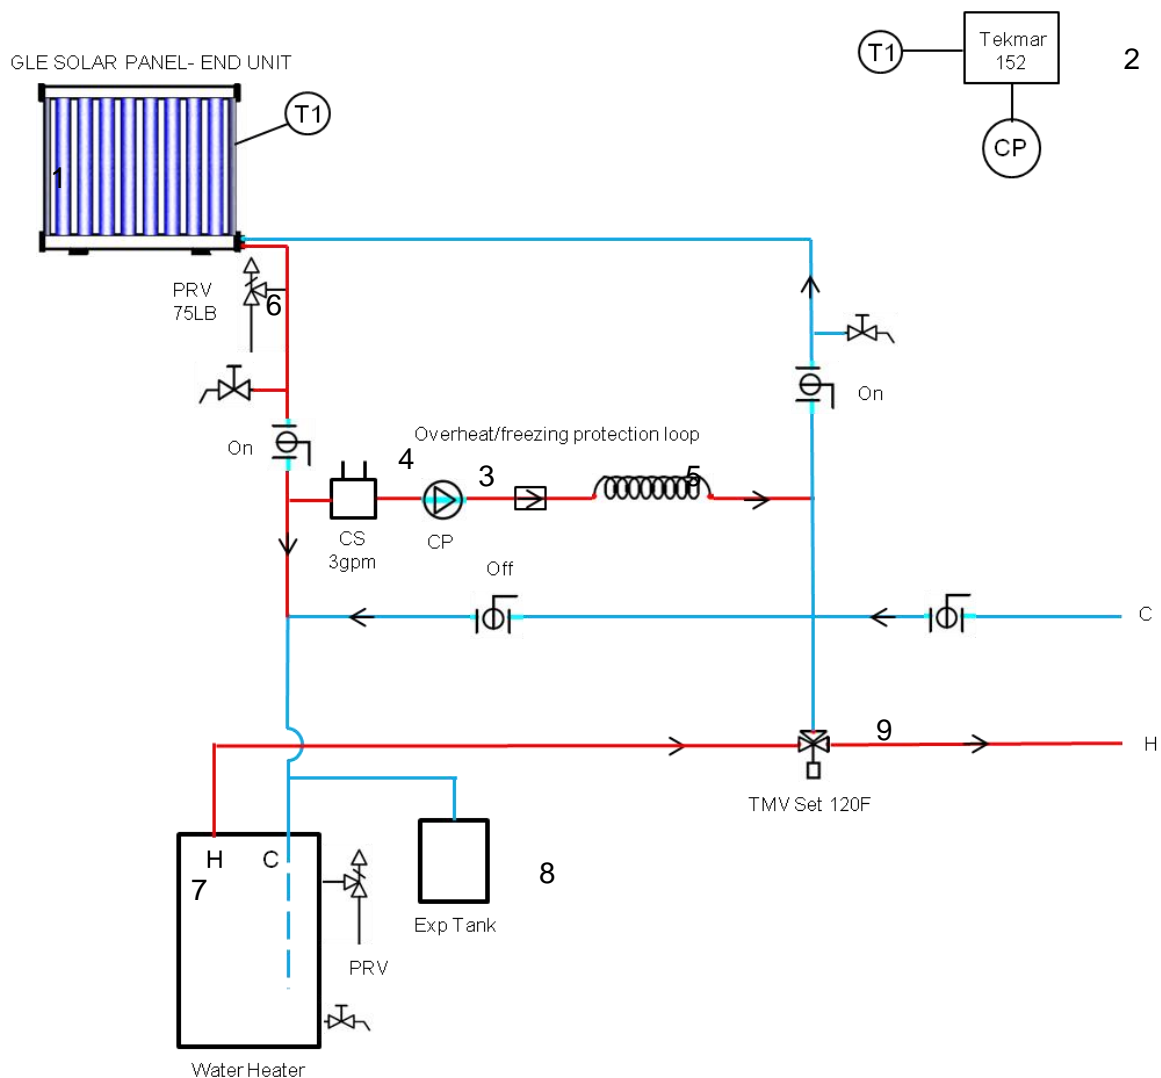

Figure 6.1: Direct Flow system design diagram showing basic functionality.
7.2.1 Control Settings for Direct Flow Systems: DF system design is shown in Fig. 6.1. The parameter settings only relate to the protection loop for overheat and freeze protection.